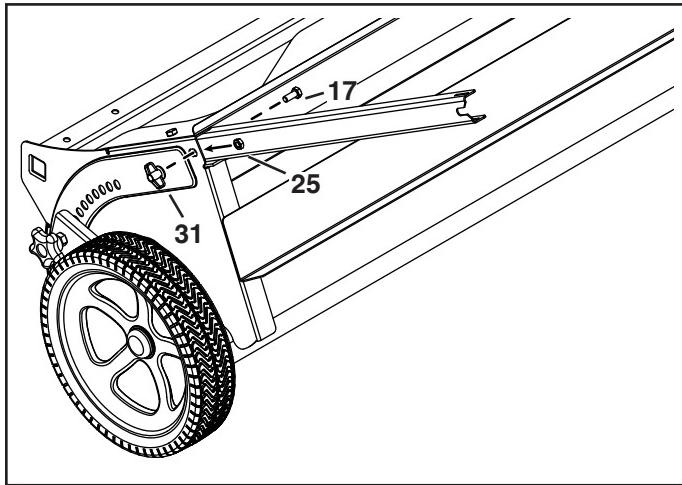

FIGURE 2
2. To lock the bag arm channels into position, secure each of them to the side of the sweeper housing with a 5/16-18 x 3/4" hex bolt (17), a 5/16" jam nut (25) (between the bag arm channel and the sweeper housing) and a plastic wing nut (31). See figure 2.